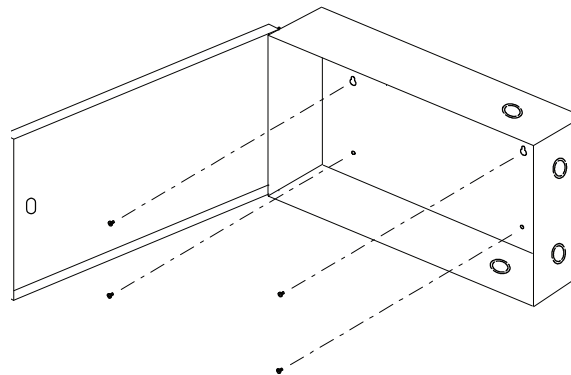

Figure 4: Power supply enclosure
The power supply enclosure is shown in Figure 4 (for clarity the power supply is not shown).
2. Using the power supply enclosure as a template, mark the back mounting hole locations as indicated in Figure 4. Ensure that at least one side is over a wall stud.